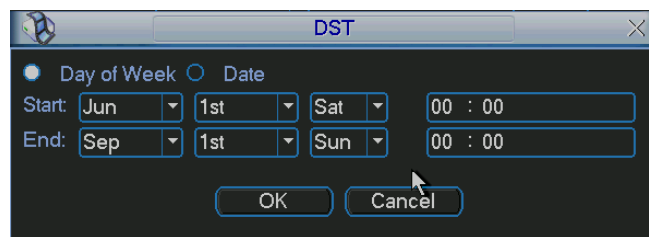
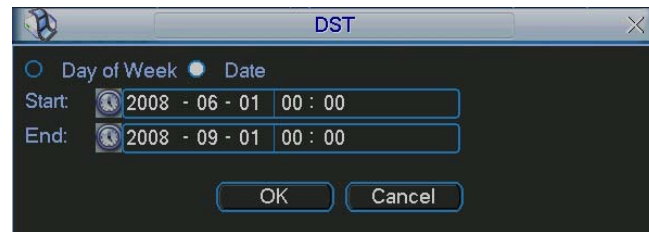

Figure 4-22
Figure 4-23
- DST: Here you can set DST time and date. Please enable DST function and then click set button. You can see an interface is shown as in Figure 4-22. Here you can set start time and end time by setting corresponding week setup. In Figure 4-22, enable date button, you can see an interface is shown as in Figure 4-23. Here you can set start time and end time by setting corresponding date setup.